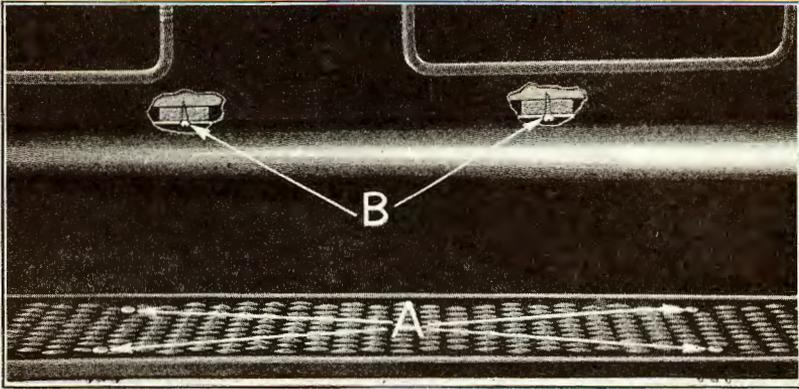

Fig. 542
- 1170** Run off the nuts on the ends of the four running board bolts (see "A" Fig. 542) and withdraw bolts. Running boards can now be lifted from brackets.
- 1172** Insert the four running board bolts (see "A" Fig. 542) through running board blocks and brackets, placing lockwashers over the ends of the bolts and running down the nuts. (Do not draw nuts down tightly until all bolts have been entered.)
- 1177 After removing the running board, run out the two wood screws which hold dust shield to body (see "B" Fig. 542).
- 1191 Run down the two dust shield to body screws through dust shield into body (see "B" Fig. 542).